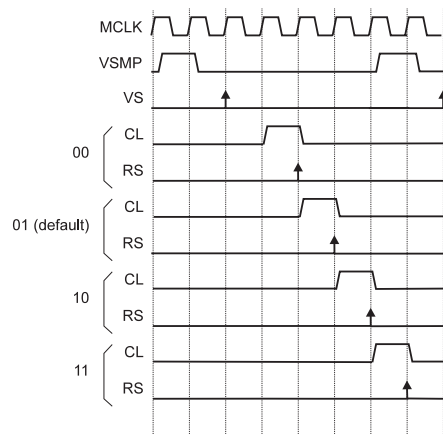
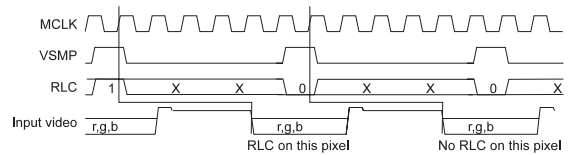

Figure 4: Reset Sample and Clamp Timing
Figure 6: RLC Timing
The position of the clamp relative to the video sample is programmable by CDSREF1-0 (see Table 7). By default, the reset sample occurs on the fourth MCLK rising edge after VSMP. The relative timing between the reset sample (CL) and video sample can be altered as shown in Figure 4.
A reset level clamp is activated if the RLC pin is high on an MCLK rising edge (Figure 6). By default this initiates an internal clamp pulse three MCLK pulses later (Figure 4: CL). The relationship between CL and RS is fixed. Therefore altering the RS position also alters the CL position (Figure 4). Table 7 shows the three possible voltages to which the reset level can be clamped.